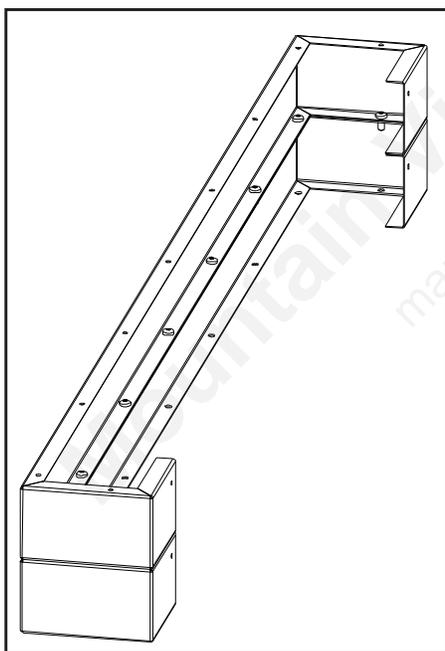

Figure 38: Combining 2 Base Shelf Risers.
2. When using more than one riser each level must be attached using nine (9) #8 T-20 screws provided (see Figure 38).